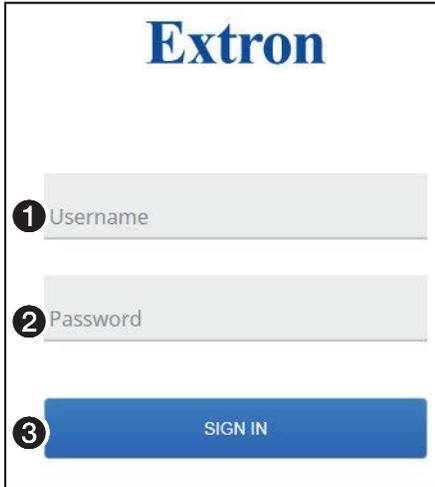
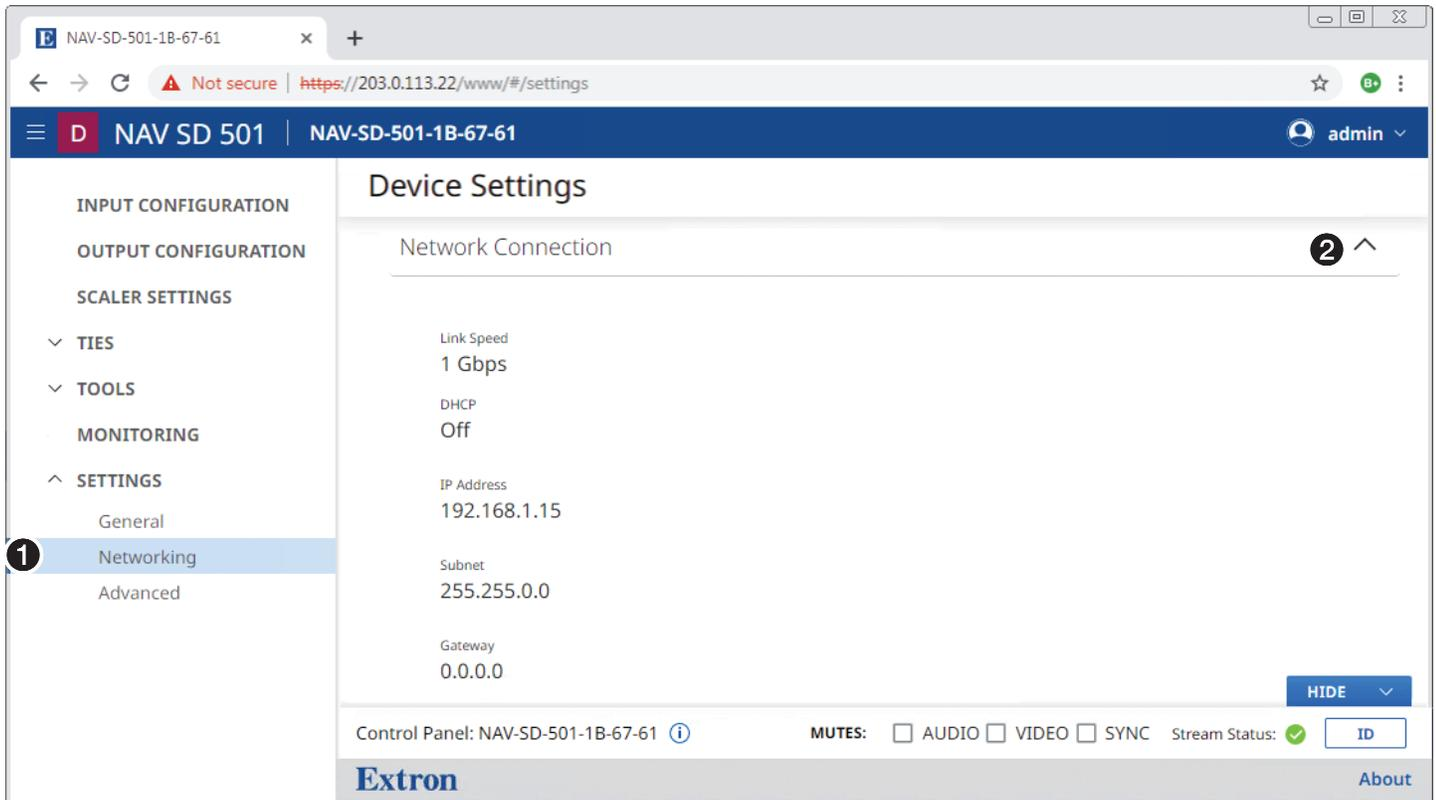

Figure 4. Login Dialog Box
Figure 5. Home Page
5. Click **Proceed to <IP address> (unsafe)** (❷). The browser opens to the Login dialog box (see figure 4).
6. Enter the **username** and **password** in the appropriate fields (see figure 4, ❶ and ❷) and click **SIGN IN** (❸). The browser opens to the home page of the embedded web pages (see figure 5 on the next page).
1. On the home page, click **Settings > Networking** (see figure 5, ①).